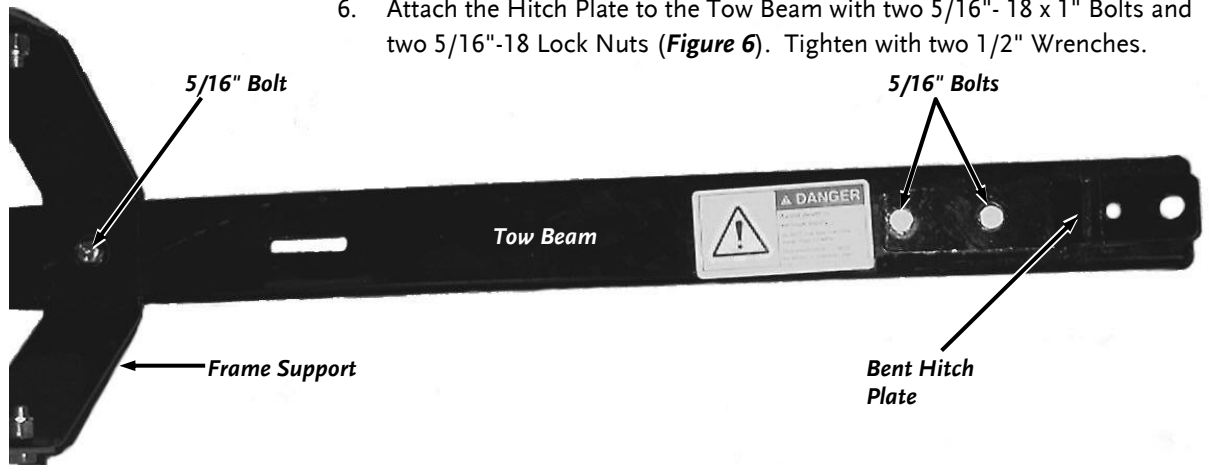

Figure 6
2. Lift the machine and align the Hole the Tow Beam with the Hole in the Front Frame Support and insert a 5/16"- 18 x 1" Bolt down through the Frame and through the Tow Beam (**Figure 6**).
6. Attach the Hitch Plate to the Tow Beam with two 5/16"- 18 x 1" Bolts and two 5/16"-18 Lock Nuts (**Figure 6**). Tighten with two 1/2" Wrenches.